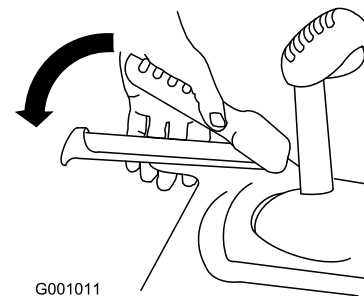

Figure 33
1. To engage the traction drive, squeeze the left hand (traction) lever to the handgrip (Figure 33).